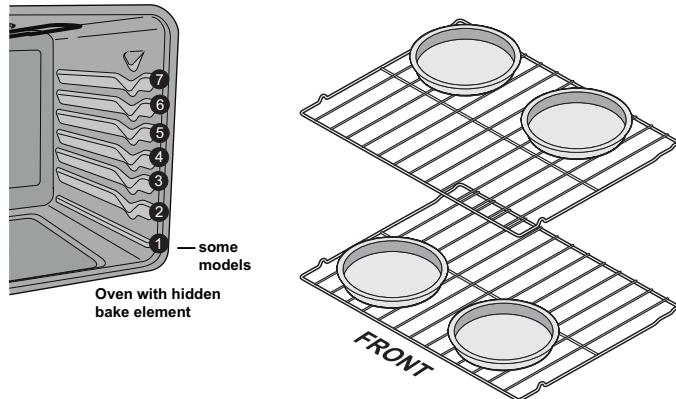

Figure 14: Suggested pan placement for best results.
- For best results when baking layer cakes using two oven racks, place racks in positions 3 and 5 and place pans as shown in Figure 14.